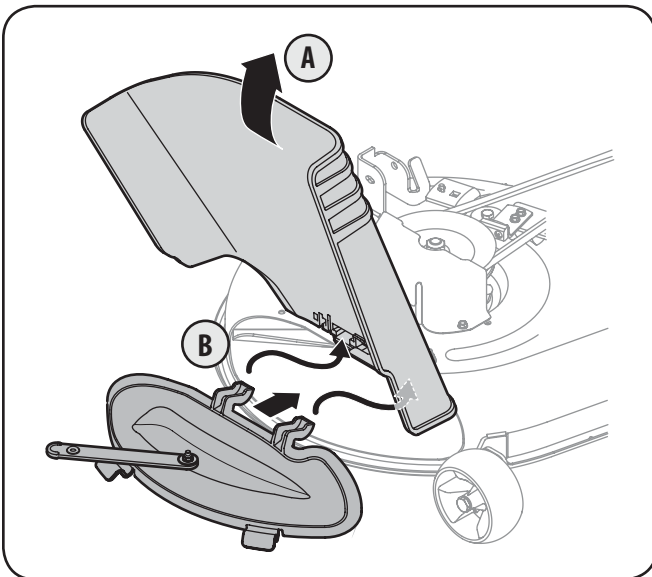

Figure 1-4
2. Lift the discharge chute up (A). See Fig. 1-4.
3. Insert the mulch plug into the deck discharge opening by fitting the tabs on the upper edge of the mulch plug inside the slots found on the discharge chute (B) and pivoting the mulch plug downward into place.